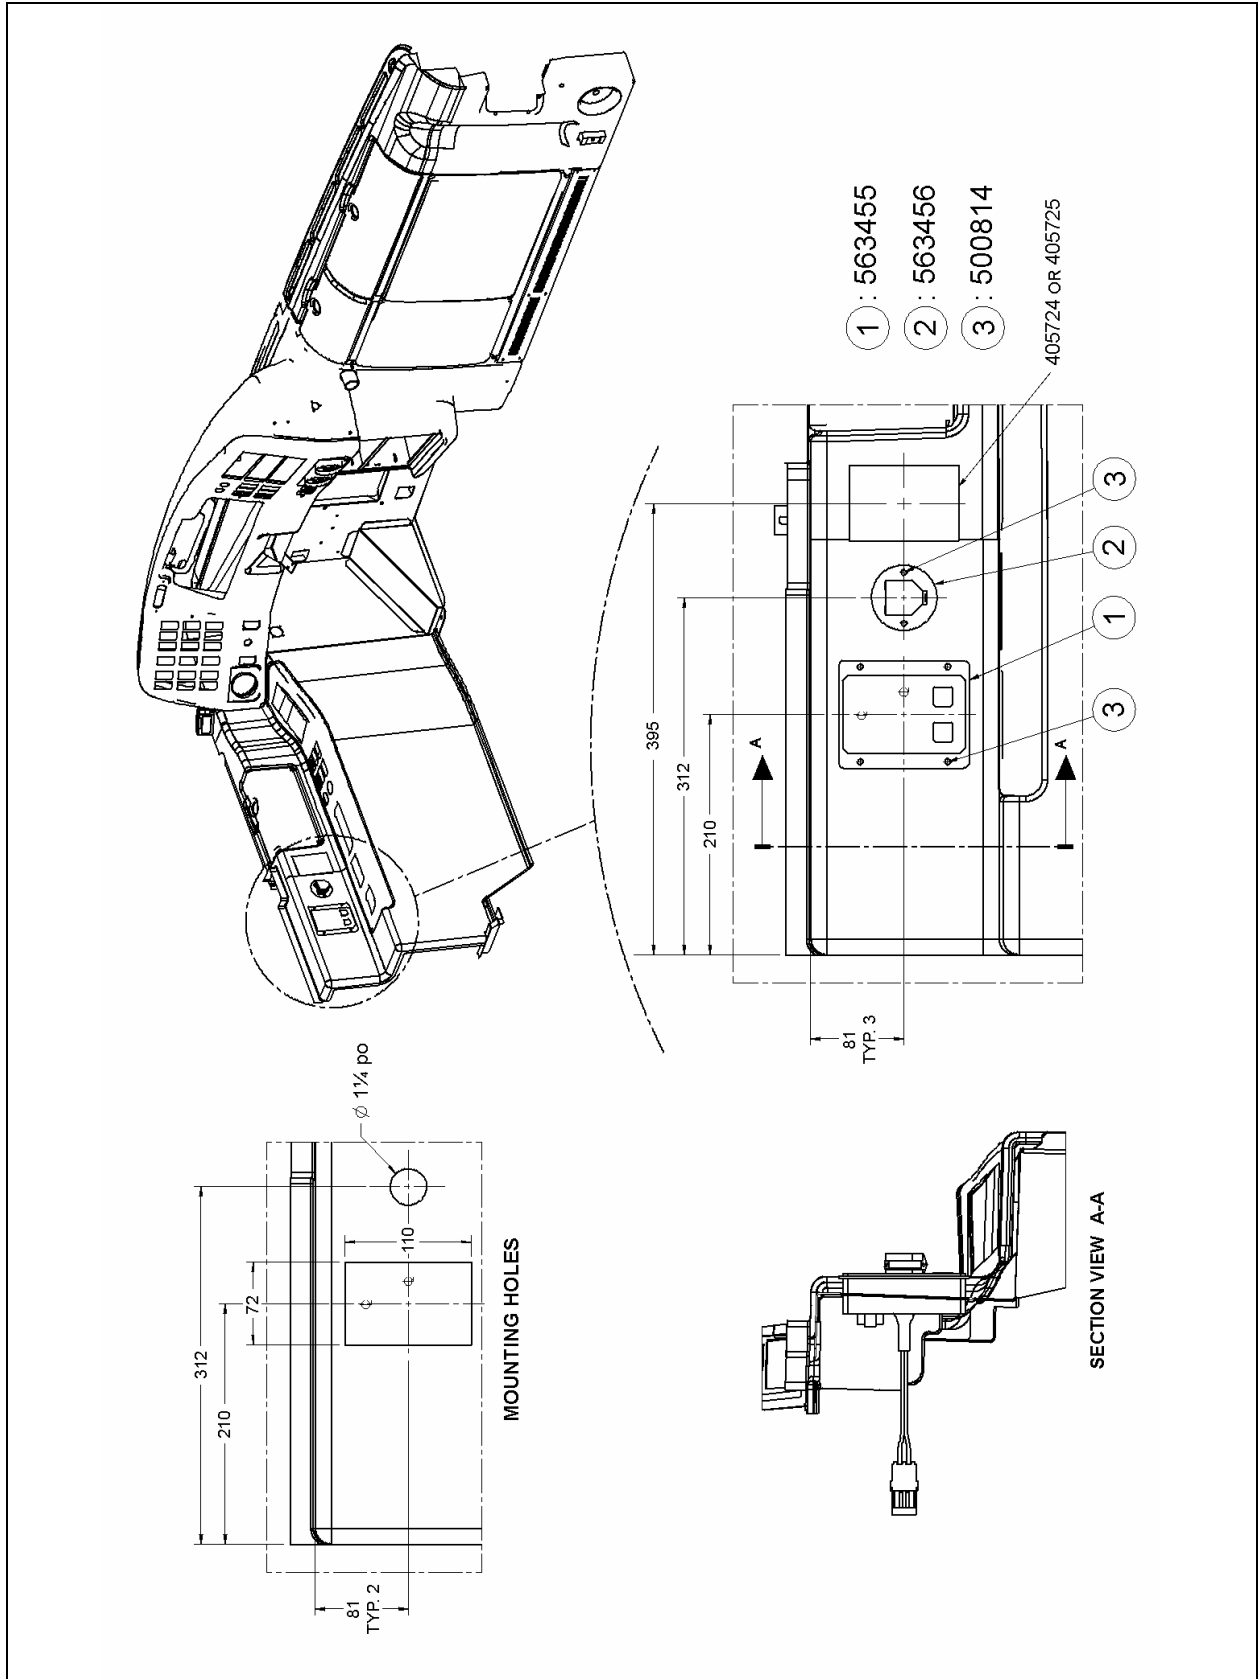
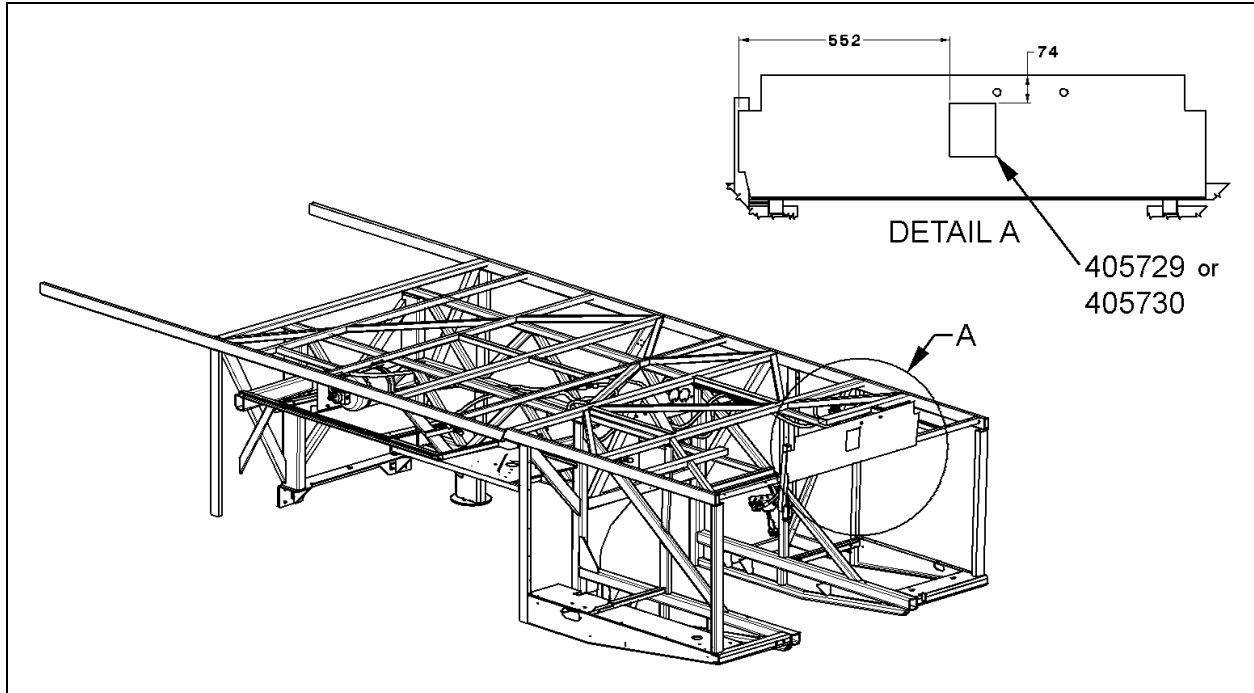

FIGURE 1
FIGURE 2
22. Referring to figure 1, cut protection panel (563455) and manual activation switch (563456) mounting holes. Fix protection panel and manual activation switch using tapping screws (500814).
23. Referring to figure 1, affix driver's area decal (405724 or 405725). Also affix engine compartment decal (405729 or 405730) referring to figure 2.